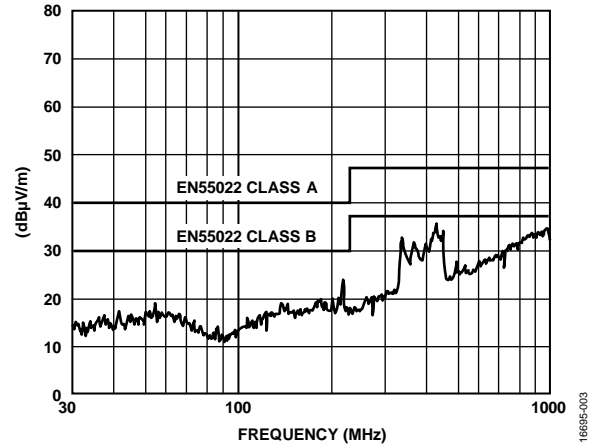
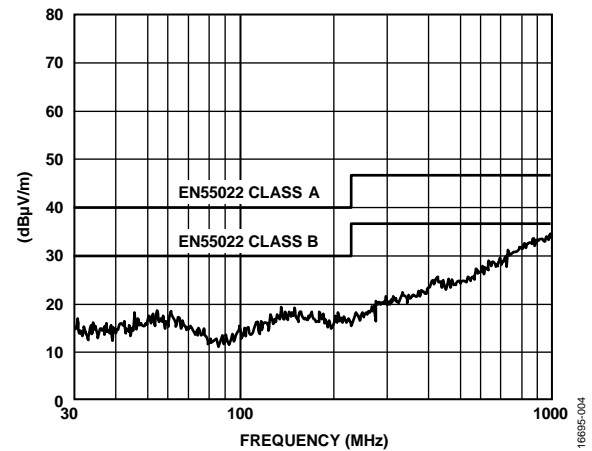

Figure 3. Horizontal Scan from 30 MHz to 1 GHz with 50 mA, 5 V Output
Figure 4. Vertical Scan from 30 MHz to 1 GHz with 50 mA, 5 V Output
The EVAL-ADuM5028EBZ evaluation board is configured and tested with 5.0 V power supplied to the VDDP pin from the ADP7104ACPZ regulator output. The ADP7104ACPZ regulator input is supplied from a standard 9 V battery. The V_{ISO} load can be loaded with six 300 Ω , 0805 size, SMD resistors in parallel for a total load of 100 Ω or 50 mA load at 5 V. Measurements carried out according to the EN55022 Class B standard in a semianechoic chamber at 10 m from 30 MHz to 1 GHz are shown in Figure 3 and Figure 4. Figure 3 shows the results of the peak horizontal scan (the worst case), and Figure 4 shows the results of the peak vertical scan. Table 3 shows the tabulated quasi peak (QP) results. These results show that the ADuM5028 emissions at -4.2 dB margin are well below CISPR22 Class B limits when at 5 V output and 50 mA load on a 2-layer PCB with the use of ferrites.